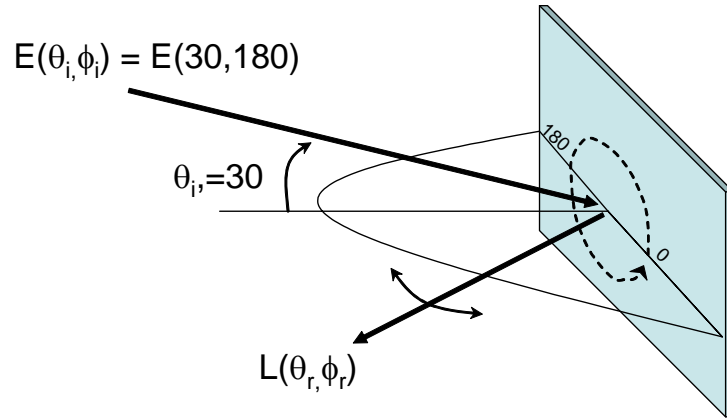
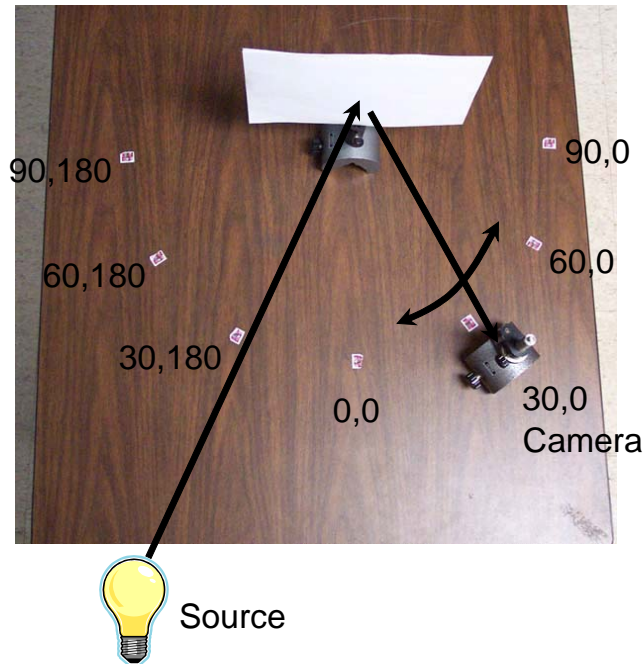

Figure 3 Example setup for measuring the BRDF of a sample.
Figure 4 Example setup for measuring BRDF of a sample, for one illumination angle.
In order to rigorously characterize the BRDF, just in terms of angles, would take an enormous amount of effort and set-up beyond the scope of this laboratory. For each illumination angle (θ_i, ϕ_i) we would have to measure the radiance at every angle (θ_r, ϕ_r) in the hemisphere above the sample. For this lab we will simply fix the illumination angle at $\theta_i = 30$ and $\phi_i = 180$ degrees. This can be seen graphically in Figure 3. Measurements, or images, will then be acquired at various zenith angles, θ_r as a function of two azimuth angles ($\phi_r = 0$ and $\phi_r = 180$), as seen in Figure 3.
Measuring BRDF can be a tricky process. However, your lab instructor has devised a simple experimental setup that should ease your pain yet still be instructional, informative, and practical. An example setup can be seen in Figure 4. This setup allows us to examine a slice of the BRDF function for a particular illumination angle, as previously discussed. In the figure, we have illuminated a material at $\theta_i = 30$, $\phi_i = 180$ degrees, relative to the material normal. To get this angle, and subsequent measurement angles, markings (*i.e.*, stickers, etc.) were placed on a table top in 30 degree increments (using a protractor) at a distance of 30 cm from the material to be measured. You can use any type of “marker” you wish as long as you can differentiate zenith angles on the order of 15 degrees (the importance of which is described below).
After your area is marked-off, point the source directly at the center of the target, which is further illustrated in Figure 3 and Figure 4. This source should be around $r = 1$ meter from your target. Whatever the distance (which produces a good signal), be sure to record it. You will need this to calculate the irradiance later. We will assume our output source has an intensity of approximately $I = 10$ W/sr.
5. Calculate the radiance using the following LUT which maps digital count (DC) to radiance:
- a. It is easier if you simply treat your angles as going from 0 to 180 degrees. Use Figure 2(b) as a reference. In this case, angle 120 would be the same as angle $L(30,0)$, assuming you started (*i.e.*, zero degrees) from the left side of Figure 4.